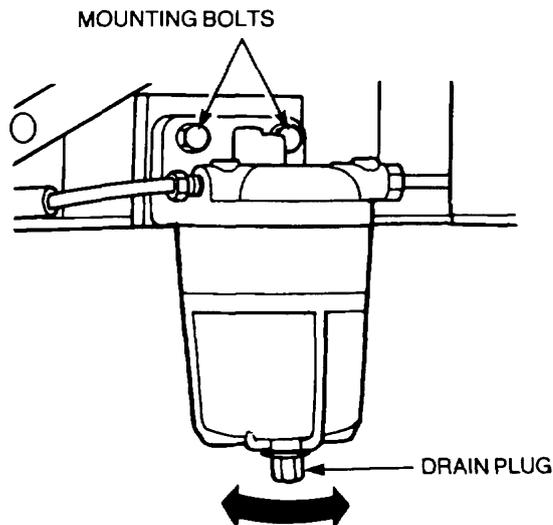

Figure 28 Fuel Sedimenter Removal
- c. Remove the drain plug and drain the contents into a suitable container (Figure 28).